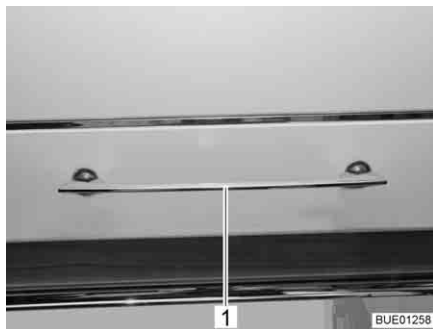
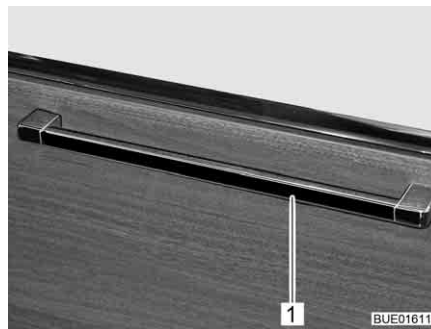

Fig. 75 Furniture flap with release handle
Fig. 76 Furniture flap with release handle (alternative)
- Press the release handle (Fig. 75,1 or Fig. 76,1) upwards, to the side or downwards depending on the fitted position and hold it down.